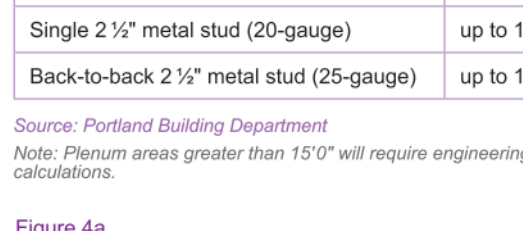

Figure 4a
- Terminal ends of each main beam and cross tee must be supported within 8 inches of each wall with a perimeter wire or approved wall support (see Figures 4a & 5a). Source: ASTM E580 Section 5.2.6
- Wall Moldings (Figures 4a and 4b)**